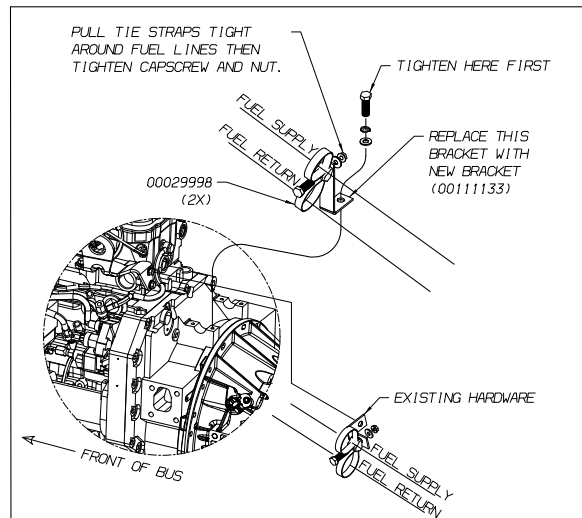

Fig. 2
3. If necessary, replace existing bracket with new bracket (00111133) behind the engine near top of transmission to lower fuel lines. Use existing fasteners and saddle with new tie straps provided to secure fuel lines. (Fig. 2)